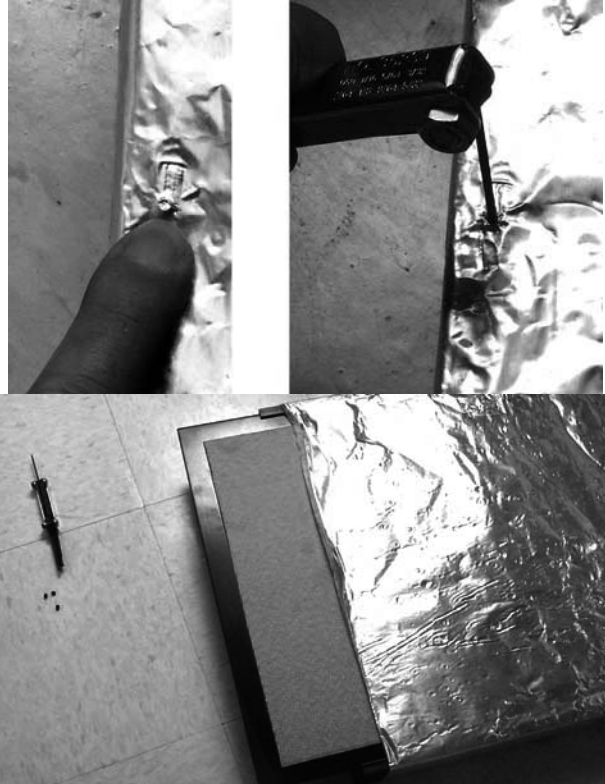

Figure 13: The heater plate slides from the insulation.
4. Slide the malfunctioning plate out of the spacer (**Fig. 13**).